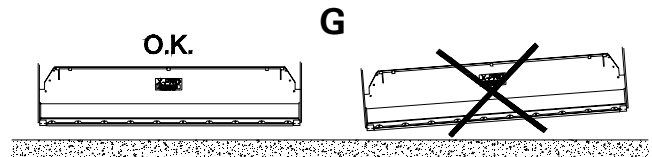

Fig. 29
- 4) Lift the **snowblower** a couple inches and verify if the **blade** is parallel to the ground (Fig. 29-G). Rectify if needed by using the two threaded cylinders adjustments (Fig. 28-B). **WARNING:** You must make sure the **snowblower** unit is parallel to the ground. If this is not the case, check the 3 point hitch on the tractor or the level of the ground.